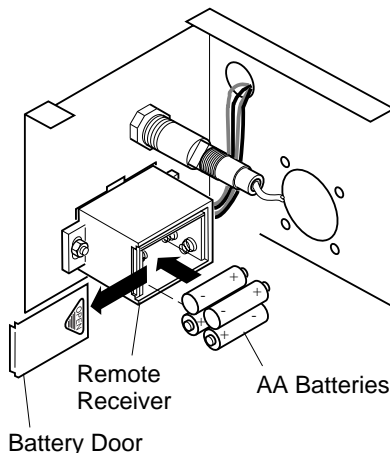

Figure 30 - Installing Battery in Remote Receiver
3. Insert the four AA batteries according to Figure 30.